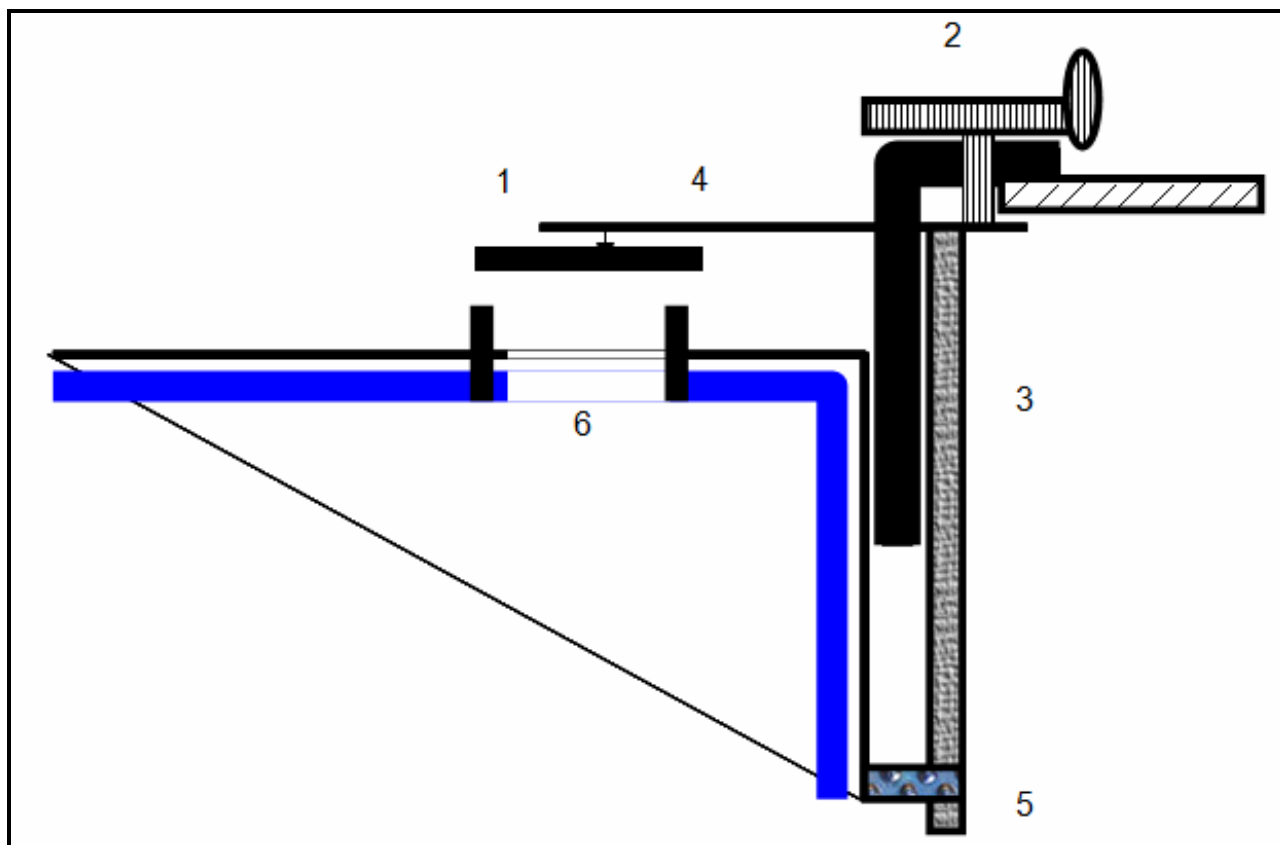

Fig. 8.5. Bi-thermal draught regulator.
The operation method of this regulator is based that when the body of the boiler becomes warmed - it expands, the body itself slightly close or close a valve (1) through a lever (4) and when getting cooler - shrinks and opens (fig. 8.5.).